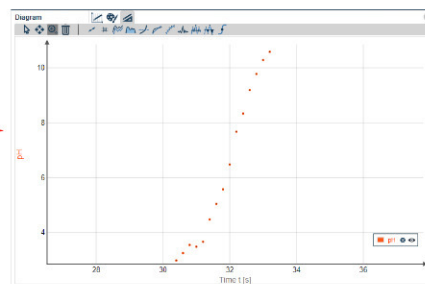

Figure 16: Diagrams in measureLAB - Basic tools
After measurement, you can view and analyse your data by selecting the 'Tools and Analysis' symbol. As basic functions (Figure 16), you can move within the diagram with the mouse pointer (1), fit your data to an optimal display (2), enlarge (zoom) certain areas (3) or delete the measurement from diagram (4). The latter is useful if you display more data sets in one diagram.